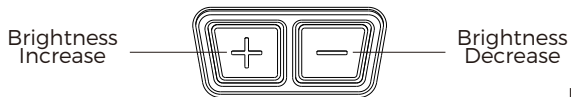

Fig 7
1. **Switch ON:** Momentarily press either button ("+" or "-") to turn on the sight. (See Fig 7)